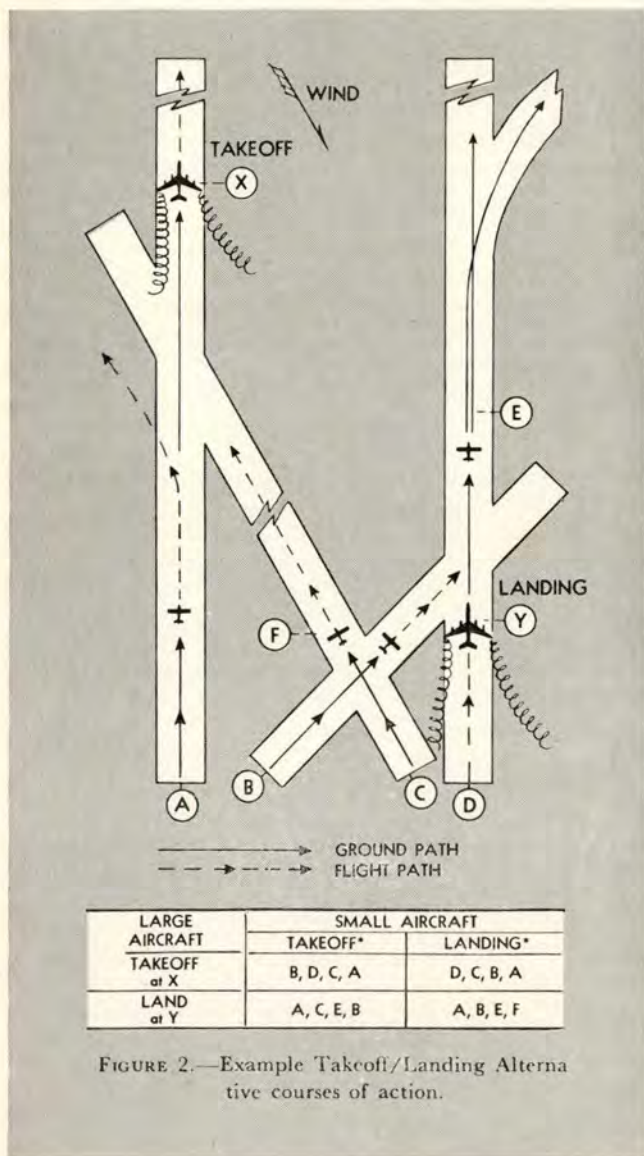

FIGURE 2.—Example Takeoff/Landing Alternative courses of action.
- *General Rule.* When it is necessary to operate behind a large heavy aircraft try to remain above the flightpath of that aircraft. Remember that vortices settle toward the surface and also that they are affected by the wind and move with the air mass down to within 100 or so feet from the ground before spreading laterally away from each other and that the wind will continue to affect the vortex cores until dissipation occurs. Because of the infinite number of different circumstances that can exist, it is not practical to establish a set of inflexible rules. Therefore, we have outlined several possible courses of action and included their depiction in Figure 2, which, depending upon existing conditions and types of aircraft, pilots may wish to consider.